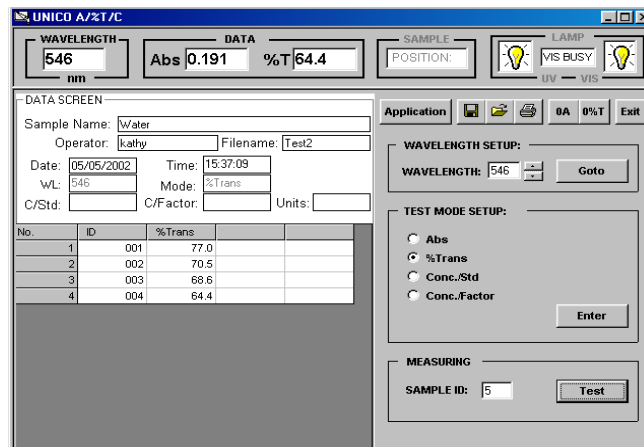

Figure-20 Sample Test Results of %Trans Mode
Step 6: Remove the reference (if it is there) and place your sample cuvette into the Sample Compartment, close the lid and click on **TEST** Button. The test results will be displayed in a spreadsheet format in the **Data Table** at the **Data Screen**. Two sample test results are shown in Figure-I9 and Figure-20.